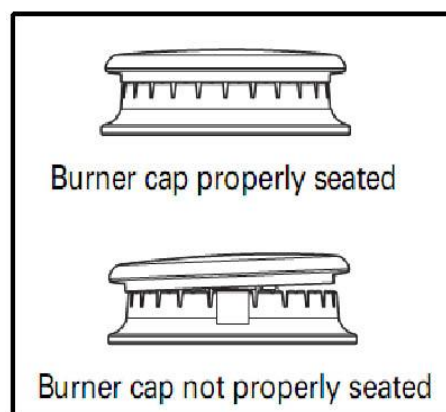

Figure 2
- Make sure each burner cap is properly aligned and level (see Figure.2).